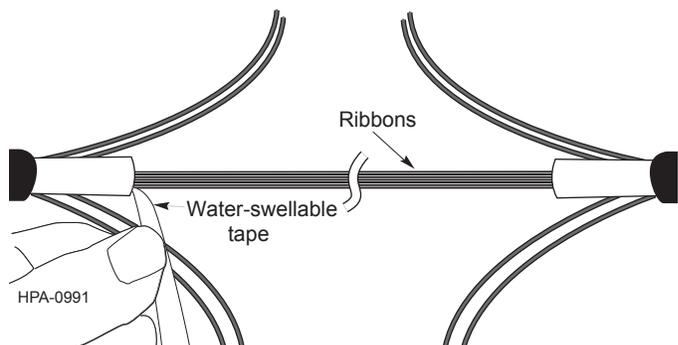

Figure 28
- Use scissors to carefully cut the tape at the buffer tube ends, making sure not to cut any ribbons (Figure 28).